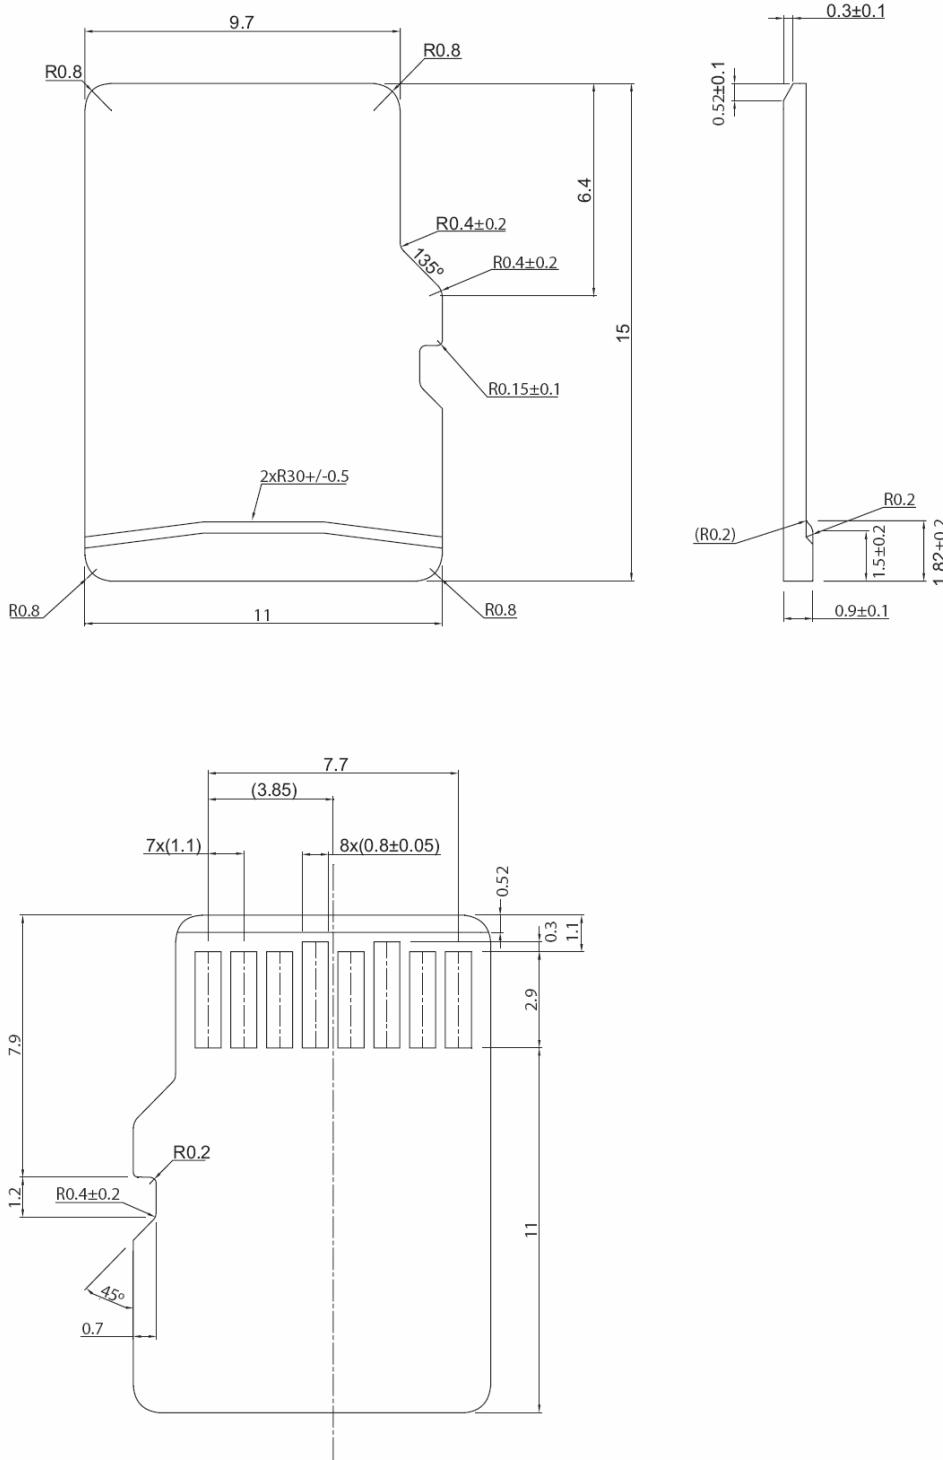

Fig 1 - microSD Card Dimensions
- Fig 1 - microSD Card Dimensions